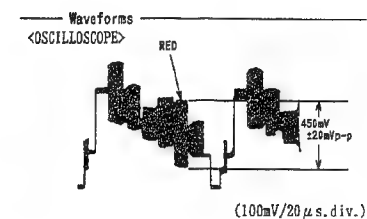

Fig. 2-20
(5) Chroma Gain Adjustment (Figs. 2-20, 2-21)
Press the **[Ctrl]** button and hold it down, then press the **[U]** and **[D]** keys so the red level is 450mV ± 20mVp-p. (Fig. 2-20)